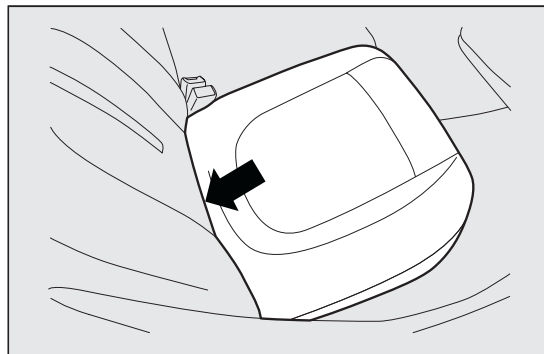

fig. 90
- fold the desired cushion forwards fig. 90 working in the point shown by the arrow;